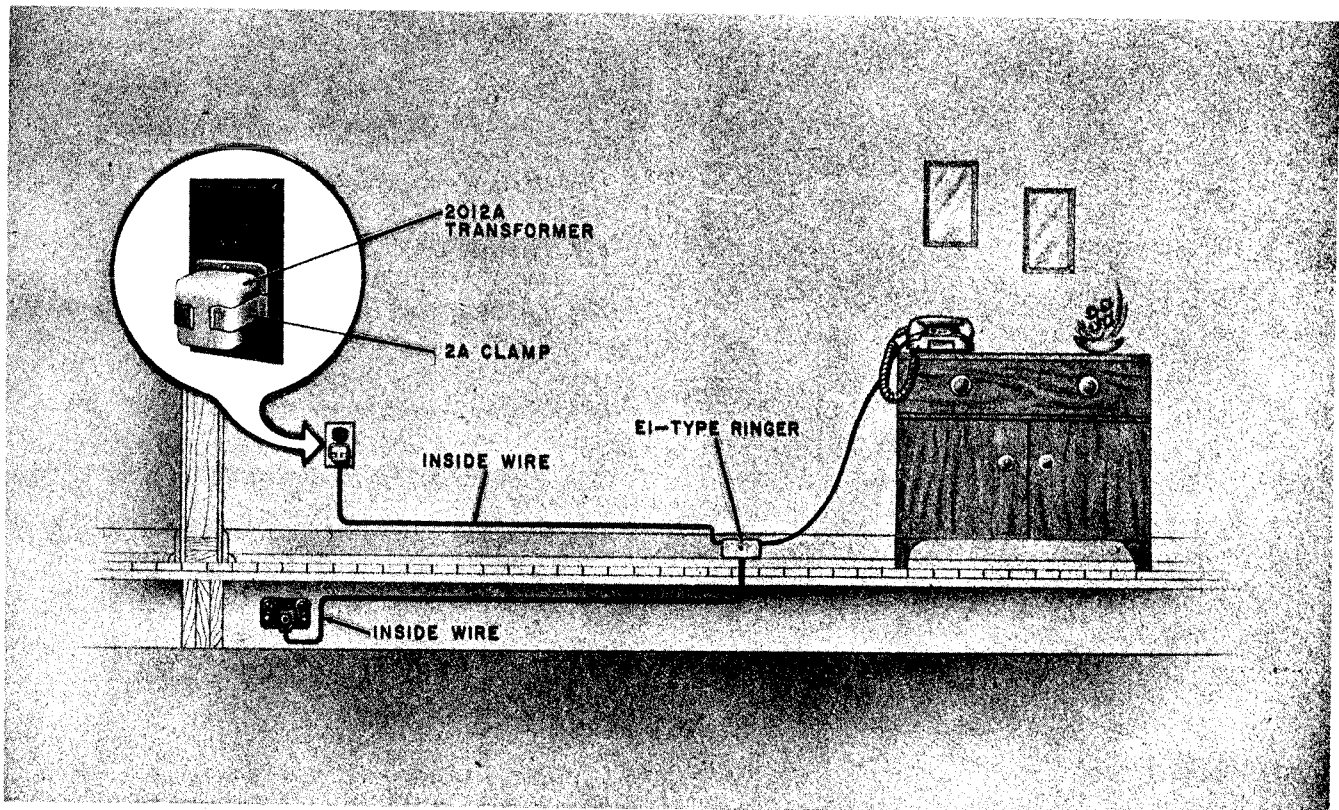

Fig. 7 — Typical Installation of 701-Type Telephone Set
3.04 When an external ringer is required, install an E1-type with each 701-, 711-, 712-, or 713-type telephone set (see Fig. 7).